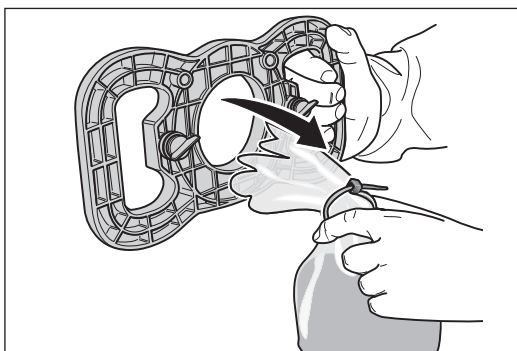
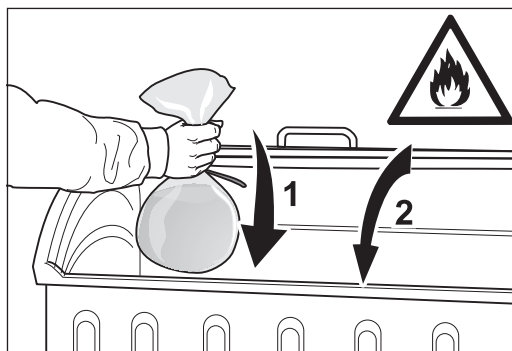

Fig. 31 Remove the waste bag from the emptying fixture.
Fig. 32 Throw the filled waste bag into a **non-combustible** container (1) and keep this closed (2) → **risk of fire!**
- **The dust bag must always be removed from the machine directly after sanding and emptied into a waste bag with the emptying fixture! Dispose of these waste bags in a non-combustible container! Cover this container with a non-combustible cover (fig. 32) and be certain to store it outdoors in non-combustible environment!**
- 18 Remove the filled waste bag from the emptying fixture (fig. 31) and place it in a **non-combustible** container (fig. 32)! Due to the **risk of fire**, seal the container with a **non-combustible** cover!